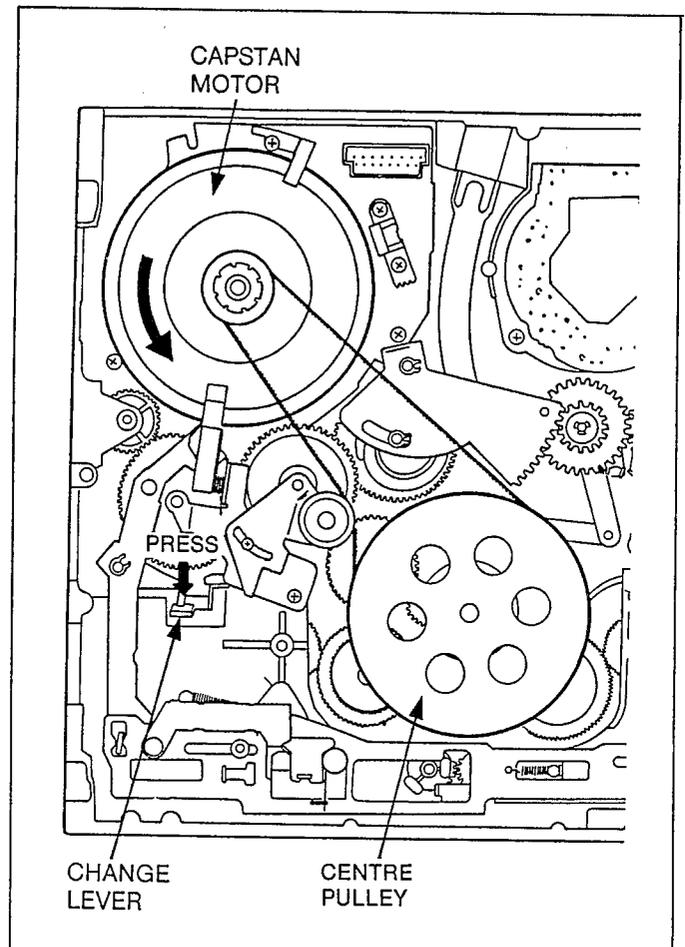

Fig. A13
1. Press the change Lever to the direction indicated by arrow mark as shown in Fig. A13 (to release the lock).